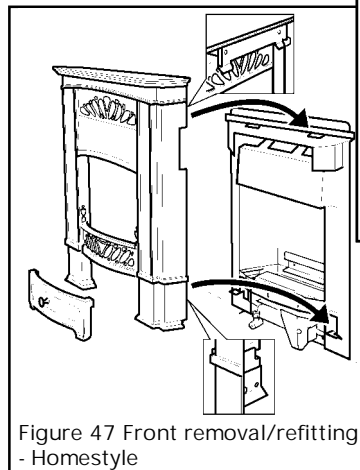

Figure 47 Front removal/refitting - Homestyle
**13.4.2** Raise the front casting unit so that the bottom location brackets and the top location plate are released from the locations in the main fire case. See figure 47.